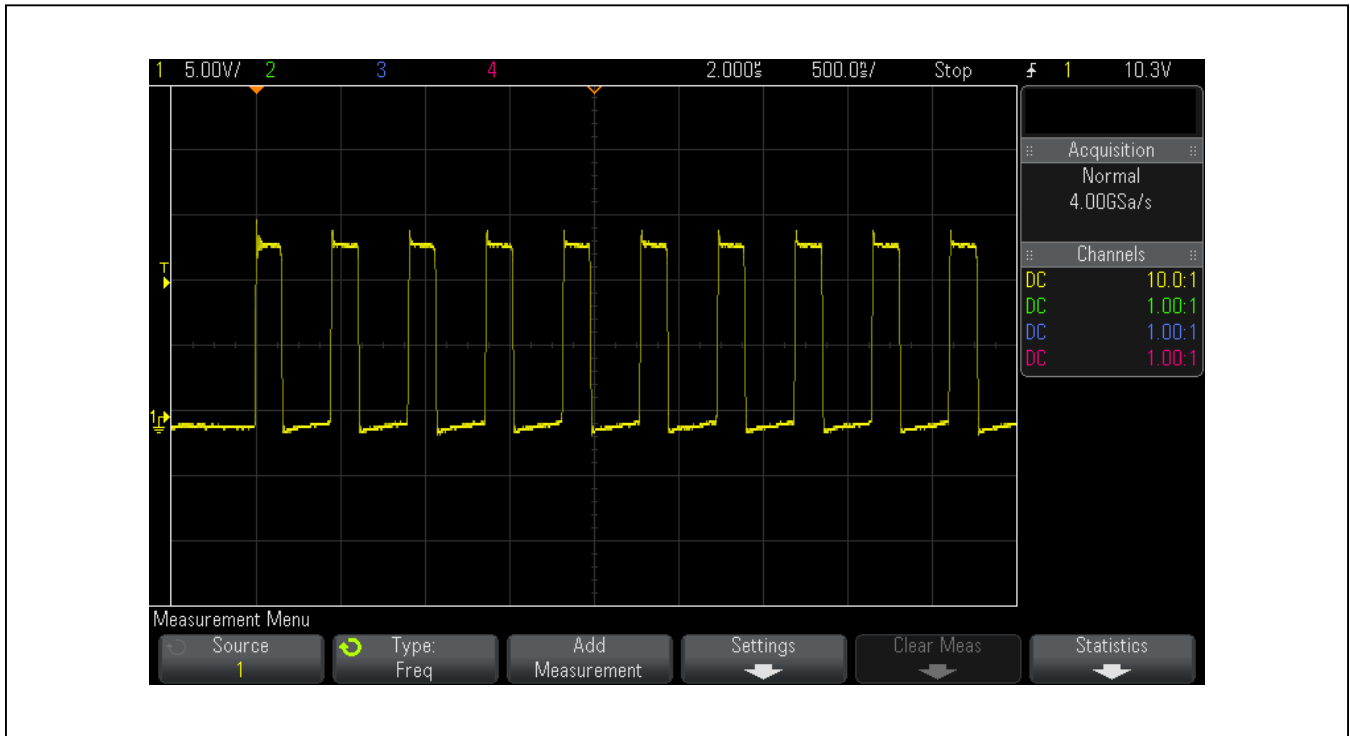

Figure 7. Oscilloscope Measurement for Buck FORCED PWM Mode
- 4) Observe that the oscilloscope waveform is similar to that shown in Figure 7.